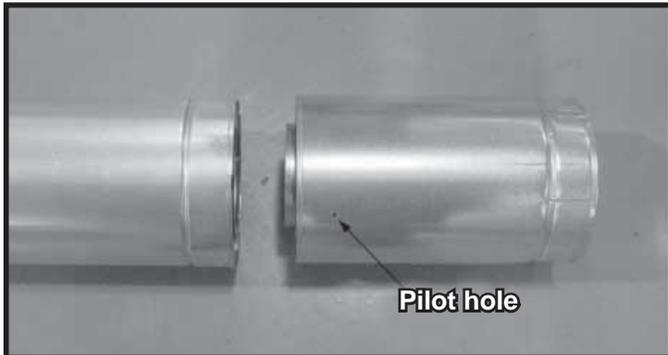

Figure 8.3 Slip Section Pilot Holes
- Slide the inner flue of the slip section into the inner flue of the pipe section and the outer flue of the slip section over the outer flue of the pipe section. See Figure 8.3.